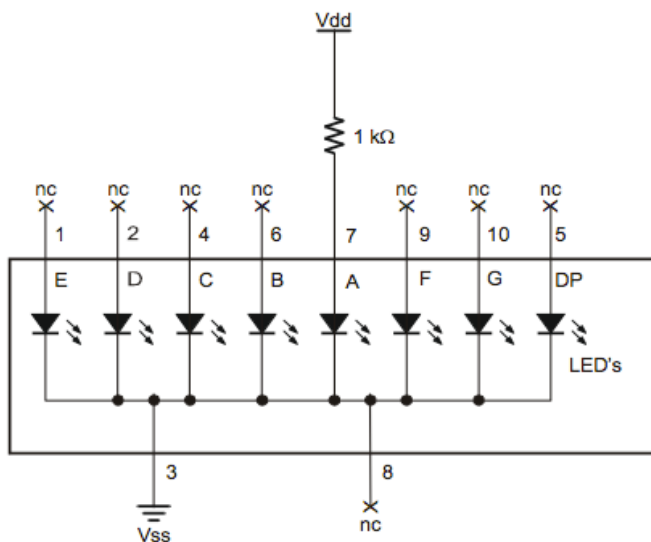
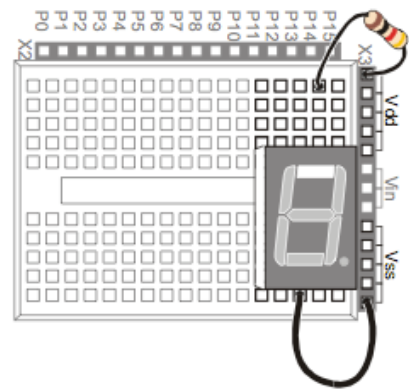

Figure 3.6: Test Circuit Schematic for Segment "A" LED display
Figure 3.7: Test Circuit Wiring Diagram for Segment "A" LED display
- With power disconnected from your Board of Education, build the circuit shown in Figure 3.6 and Figure 3.7.